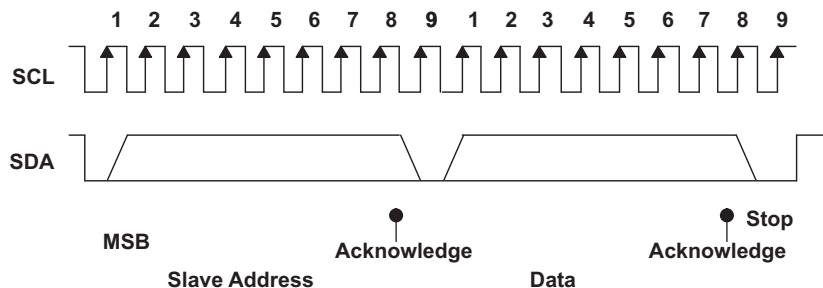

Figure 8. I²C Address and Data Cycles
- The master generates further SCL cycles to either *transmit* data to the slave ($R/\bar{W}$ bit 1) or *receive* data from the slave ($R/\bar{W}$ bit 0). In either case, the *receiver* must acknowledge the data sent by the *transmitter*. So, an acknowledge signal can either be generated by the master or by the slave, depending on which one is the receiver. The 9-bit valid data sequences consisting of 8-bit data and 1-bit acknowledge can continue as long as necessary (see Figure 8).